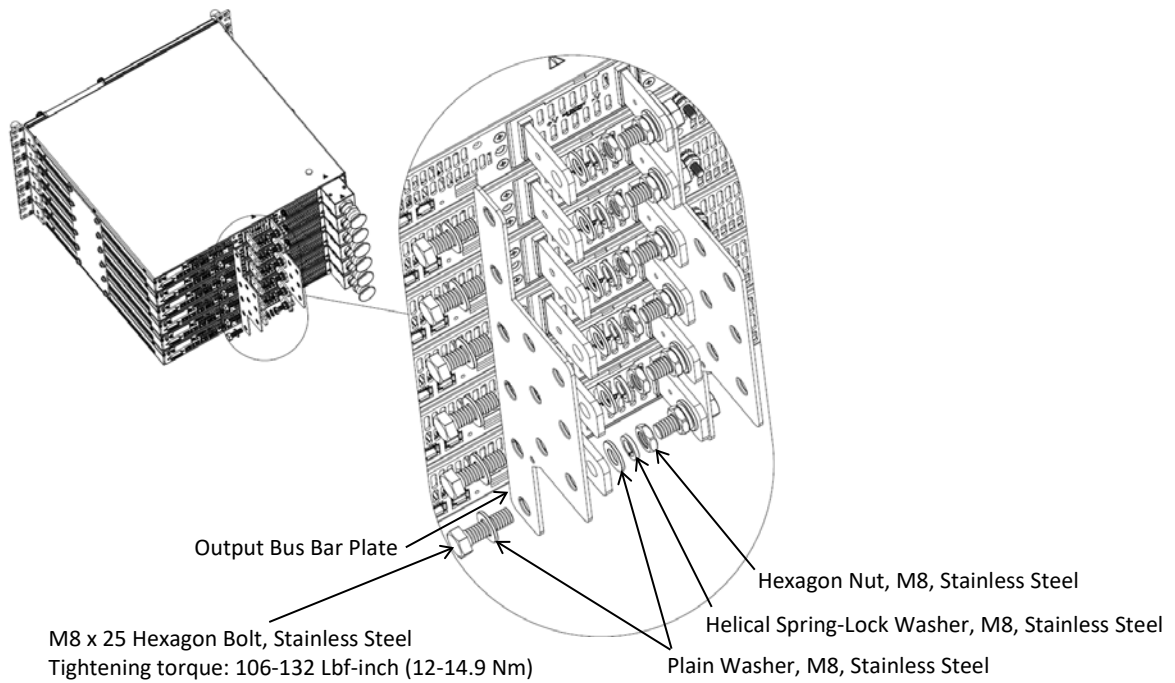

Figure 2: Six 60V÷100V Units Output Bus Bars Plates Assembly
2. Attach output bus bars plates, one on each sextet terminals, using 12 hexagon bolts, 24 plain washers, 12 helical spring-lock washers and 12 hexagon nuts as illustrated in Figure 2.